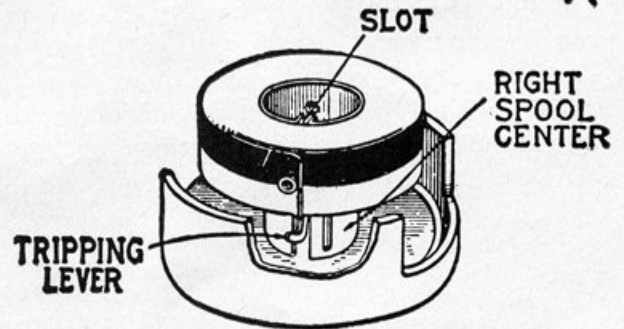

Figure 19.—Right ribbon spool, Underwood and Remington Noiseless.
*Underwood Noiseless and Remington Noiseless.*—With the new ribbon on the right ribbon spool hub (see fig. 19), place the eyelet of the loose ribbon